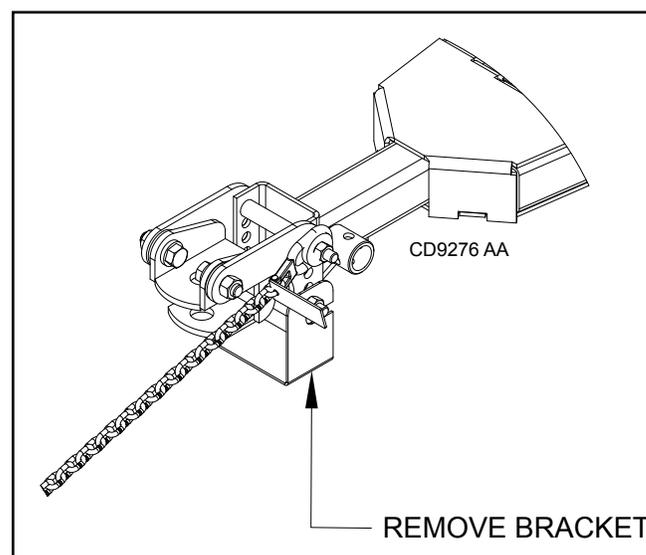

Figure 31. Remove Shipping Hardware
10. Remove front shipping bracket channel shown in Figure 31 and retighten hardware to 170 ft-lbs.